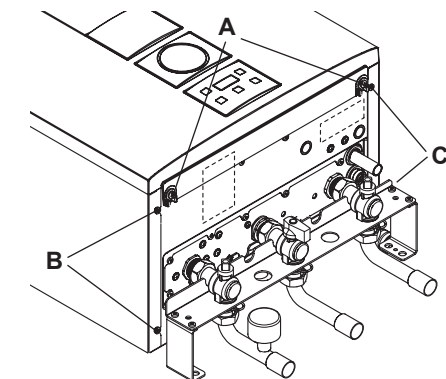
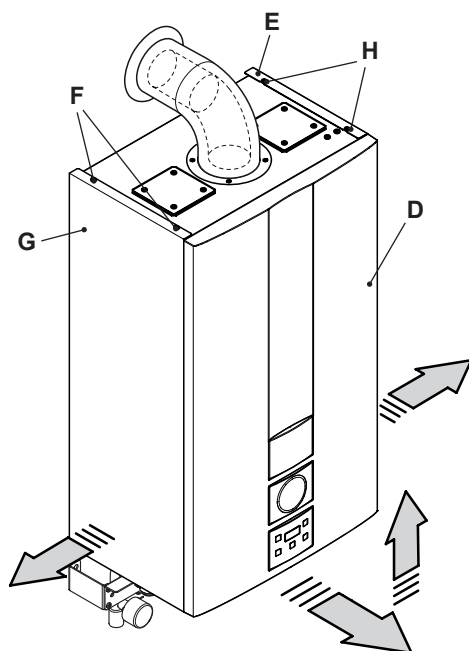

Fig. 9.1
Fig. 9.2
- Unscrew screws A and remove the front panel D by pulling it and pushing it towards the top so that it is freed from the top housings (Fig. 9.1 and Fig. 9.2).
Loosen screws "B - F" and "C - H" in Fig. 9.1 and remove the two side panels E and G by pulling towards the outside.
- Lock in place the panel D with the appropriate screws A (Fig. 9.1).